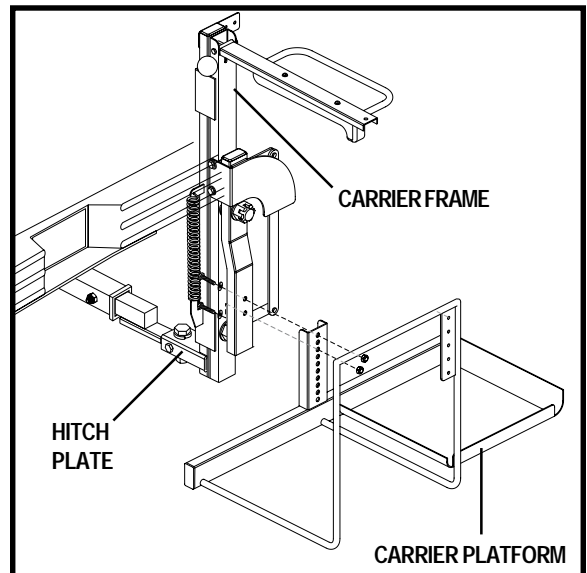

Figure 2. Carrier Frame/Platform Installation
4. Secure the carrier frame to the hitch tube adapter with the previously removed mounting hardware. See figure 2.
5. Attach the carrier platform to the carrier frame with the supplied hardware. Do not fully tighten the hardware. See figure 2.